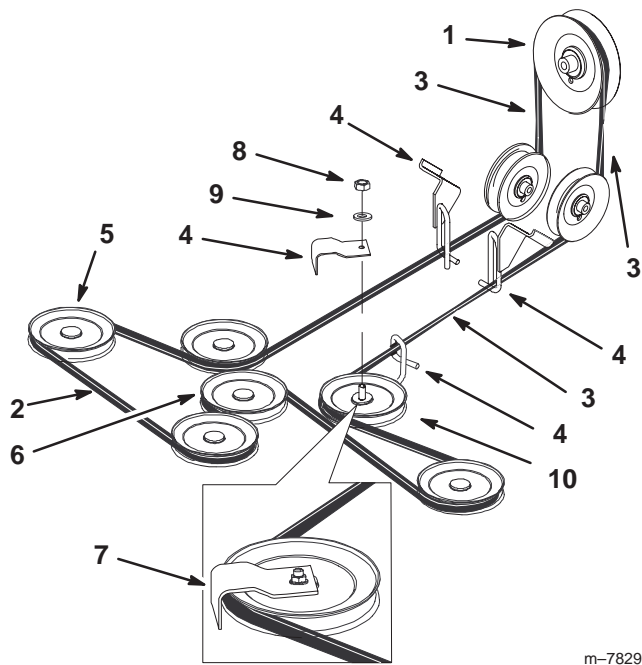

Figure 70
5. Remove the nut, washer and belt guide from the rear leftside pulley (Fig. 70).
6. Remove the mower belt from the belt guides and remove the belt (Fig. 70).
7. Install the new mower belt around the mower spindle pulleys, mower idler pulley, into the belt guides, into rear idler arm assembly, and the clutch (Fig. 70).
8. Install the belt guide with a washer and nut onto the rear leftside pulley (Fig. 70).
Important Check the amount of twist in the belt between the pulleys. Make sure it is only what is specified in Figure 70.